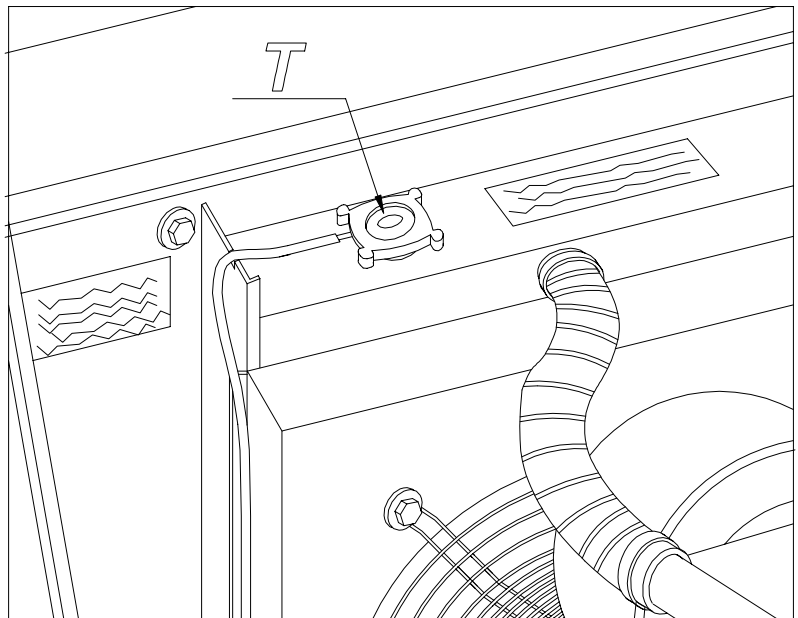

FIG. 9
- 7.1.5 Check the level of the cooler liquid in the radiator (Fig.9).